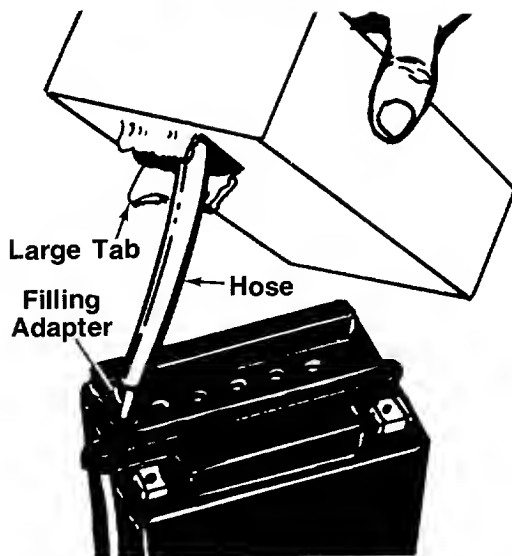

FIGURE 14.
- Pull out hose from package and hold upright. Squeeze hose forcing all acid back into package. Cut off tip of hose and insert filling adapter. See figure 14.
- Fill each cell to upper level marked on front of battery. Replace fill caps on battery. See figure 14.